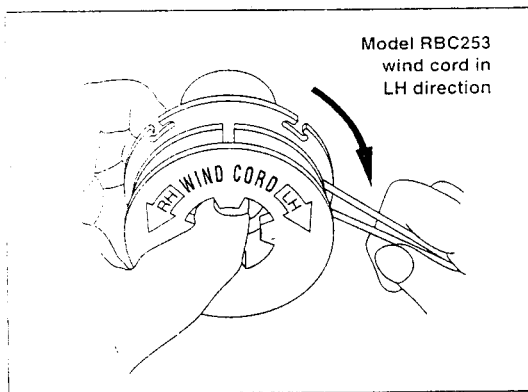

Fig. 46
3. Wind both ends firmly around the spool in the direction of the head rotation, (Fig. 46).